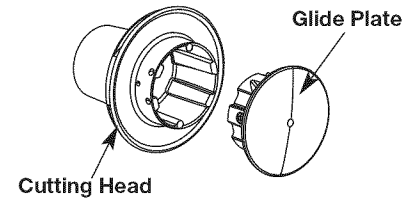

Fig. 14
- Reinstall line glide plate (Fig. 14). The glide plate is a keyed item and will only fit one way. If it does not go into the cutting head smoothly, DO NOT force it. Rotate the glide plate until it slides into the cutting head easily.